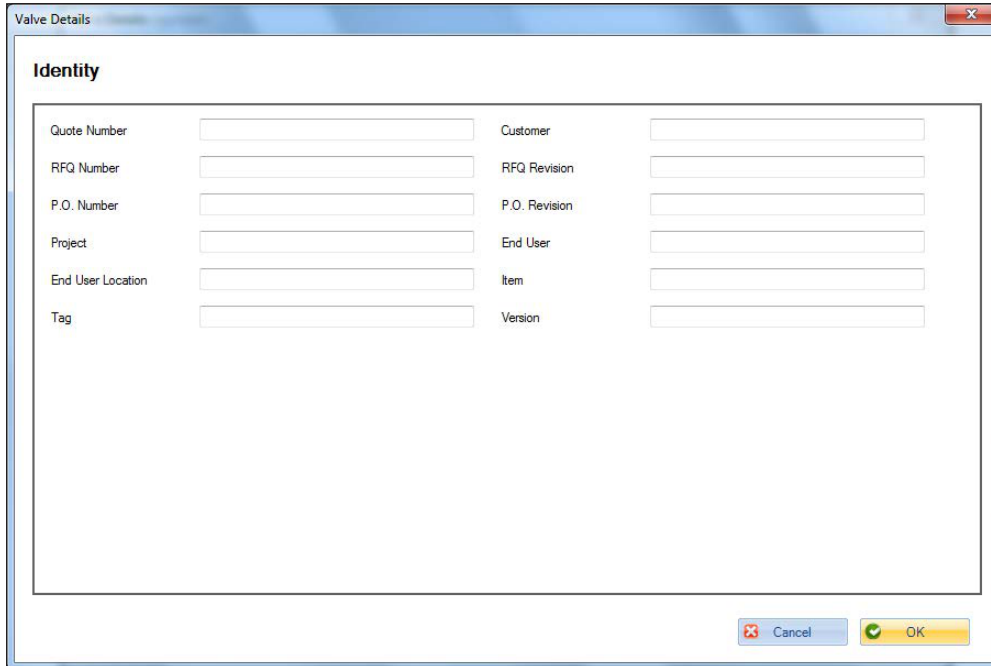

Figure 113 - Identity Sub-Dialog
- Inputting information directly or editing information that was imported. To input data directly: click on one of the labels, for example, *Identity* and a sub-dialog for that data appears (Figure 113).